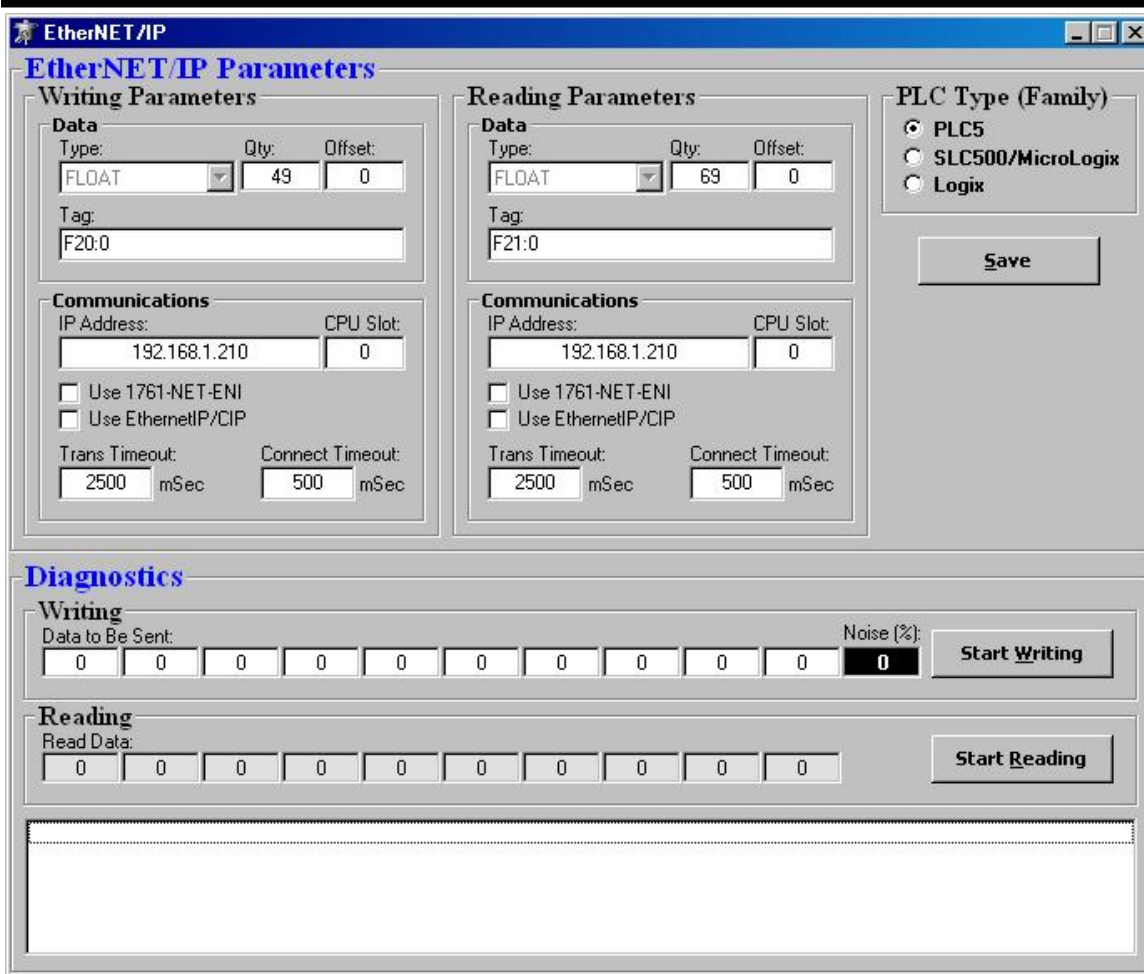

Figure: 3
4. In the *VS-3000 Dashboard* software desktop click on **Edit**>EtherNetIP. The following screen will be displayed. This is Figure: 3 below.
5. The IP address of the target PLC must also be entered as shown in Figure 3.